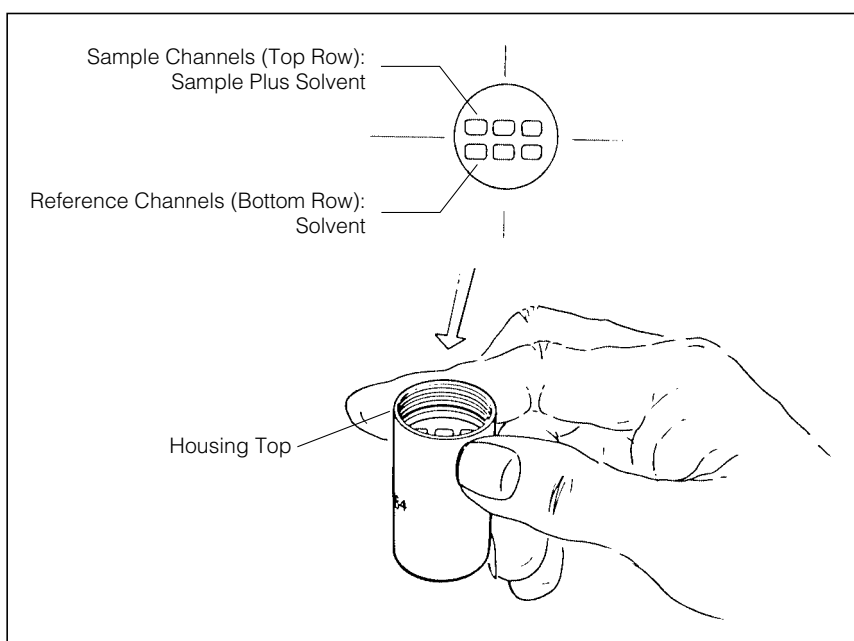

Figure 2-10. Reference and Sample Channels. Six-channel centerpiece shown; eight-channel centerpiece channels are referenced the same as the six-channel.
4. Turn the housing right side up; hold it with the housing holes to your left. Looking into the housing, the front (reference) row of channels is for solvent only; the back (sample) row is for sample plus solvent (Figure 2-10).